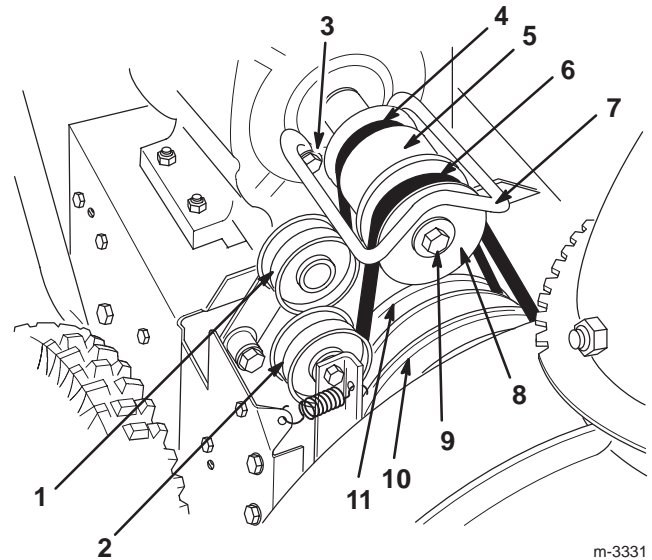

Figure 26
6. Remove 2 bolts, 2 washers, and 2 lock washers that secure the belt guide (Fig. 26).
7. Remove the engine crankshaft bolt, lock washer, and washer (Fig. 26).
8. Separate and remove the engine pulley sheave (Fig. 26).
10. Remove the engine pulley (Fig. 26).
11. Remove the traction drive belt from the traction pulley and the engine crankshaft (Fig. 26).
12. Pull the traction idler pulley outward and install a new traction drive belt (Fig. 26).
14. Pull the idler pulley outward and loop the auger/impeller drive belt in front of the engine pulley, ensuring that the belt is on the inside of the idler pulley (Fig. 26).
6. Remove the 2 bolts, 2 washers, and 2 lock washers that secure the belt guide (Fig. 26).
9. Remove the auger/impeller drive belt (Fig. 26).
10. Pull the idler pulley outward and install a new belt around the large auger/impeller pulley (Fig. 26).
11. Loop the belt in front of the engine pulley, and ensure that the belt is on the inside of the idler pulley (Fig. 26).